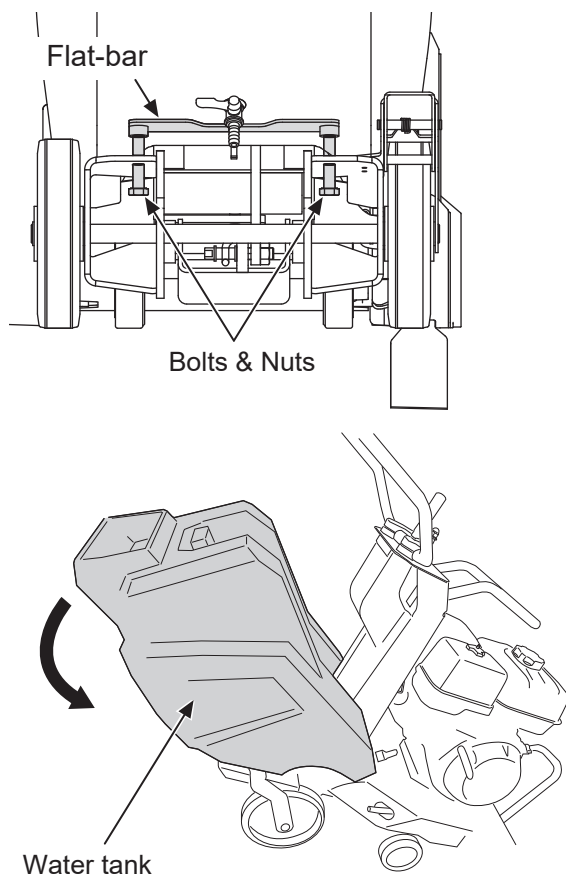

Fig. 7
- Loosen bolts and nuts below the tank. And take off the flat-bar and water tank. (Fig. 7)
● How to use cutting depth gauge (Fig. 7)